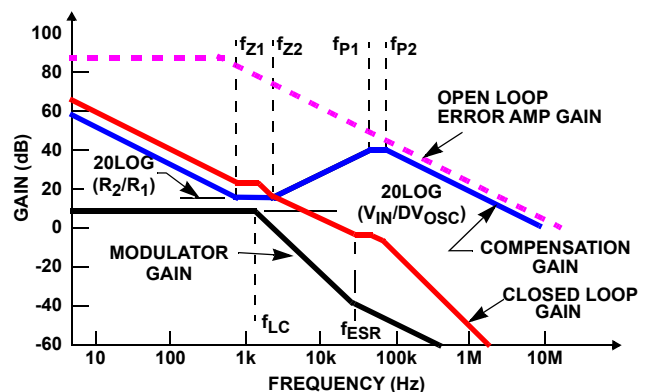

FIGURE 59. ASYMPTOTIC BODE PLOT OF CONVERTER GAIN
Figure 59 shows an asymptotic plot of the DC/DC converter's gain vs frequency. The actual modulator gain has a high gain peak due to the high Q factor of the output filter and is not shown in **Figure 59**. Using the guidelines provided should give a compensation gain similar to the curve plotted. The open-loop error amplifier gain bounds the compensation gain. Check the compensation gain at f_{P2} with the capabilities of the error amplifier. The closed-loop gain is constructed on the graph of **Figure 59** by adding the modulator gain (in dB) to the compensation gain (in dB). This is equivalent to multiplying the modulator transfer function to the compensation transfer function and plotting the gain. The compensation gain uses external impedance networks Z_{FB} and Z_{IN} to provide a stable, high bandwidth (BW) overall loop. A stable control loop has a gain crossing with -20dB/decade slope and a phase margin greater than $+45^\circ$. Include worst case component variations when determining phase margin. A more detailed explanation of voltage mode control of a buck regulator can be found in **TB417**, entitled "Designing Stable Compensation Networks for Single Phase Voltage Mode Buck Regulators".